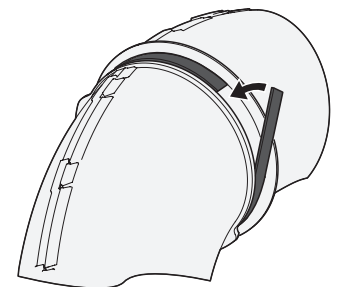

Figure 16
5. Peel the backing off of the self-adhesive foam strip (721-04388) that has been included with your grass collector. Apply it to the upper chute tube, flush against the flange as shown in Figure 16.